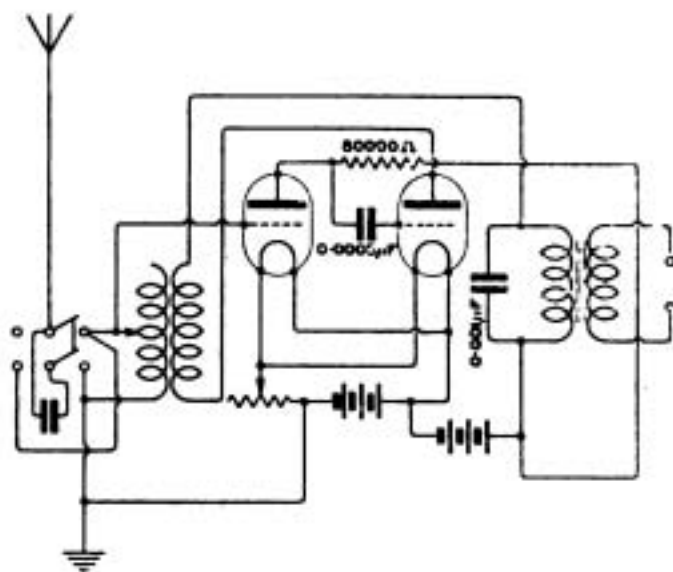

Fig. 4.
(1) and (3) see Fig. 4 for the reactance coil, rewind the secondary of the loose coupler with No. 30 wire.
(2) The maximum wavelength with the condenser in series is 1,400 ms., and 4,500 ms. when parallel.
E.H.W. (Weymouth). We are obliged to readers for drawing our attention to an error in the diagram given in the Nov. 12th issue, Fig. 4, p. 526. The lead from the bottom left-hand contact of the two-way switch should bridge over, instead of connect with, the lead to the reactance coil.